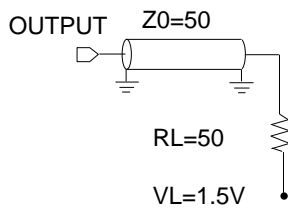
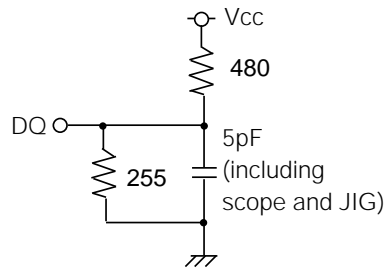

Fig.1 Output load
Fig.2 Output load for t_{en}, t_{dis}
Output loads Fig1, Fig2
5. Transition is measured $\pm 500\text{mv}$ from steady state voltage with specified loading in Figure 2.